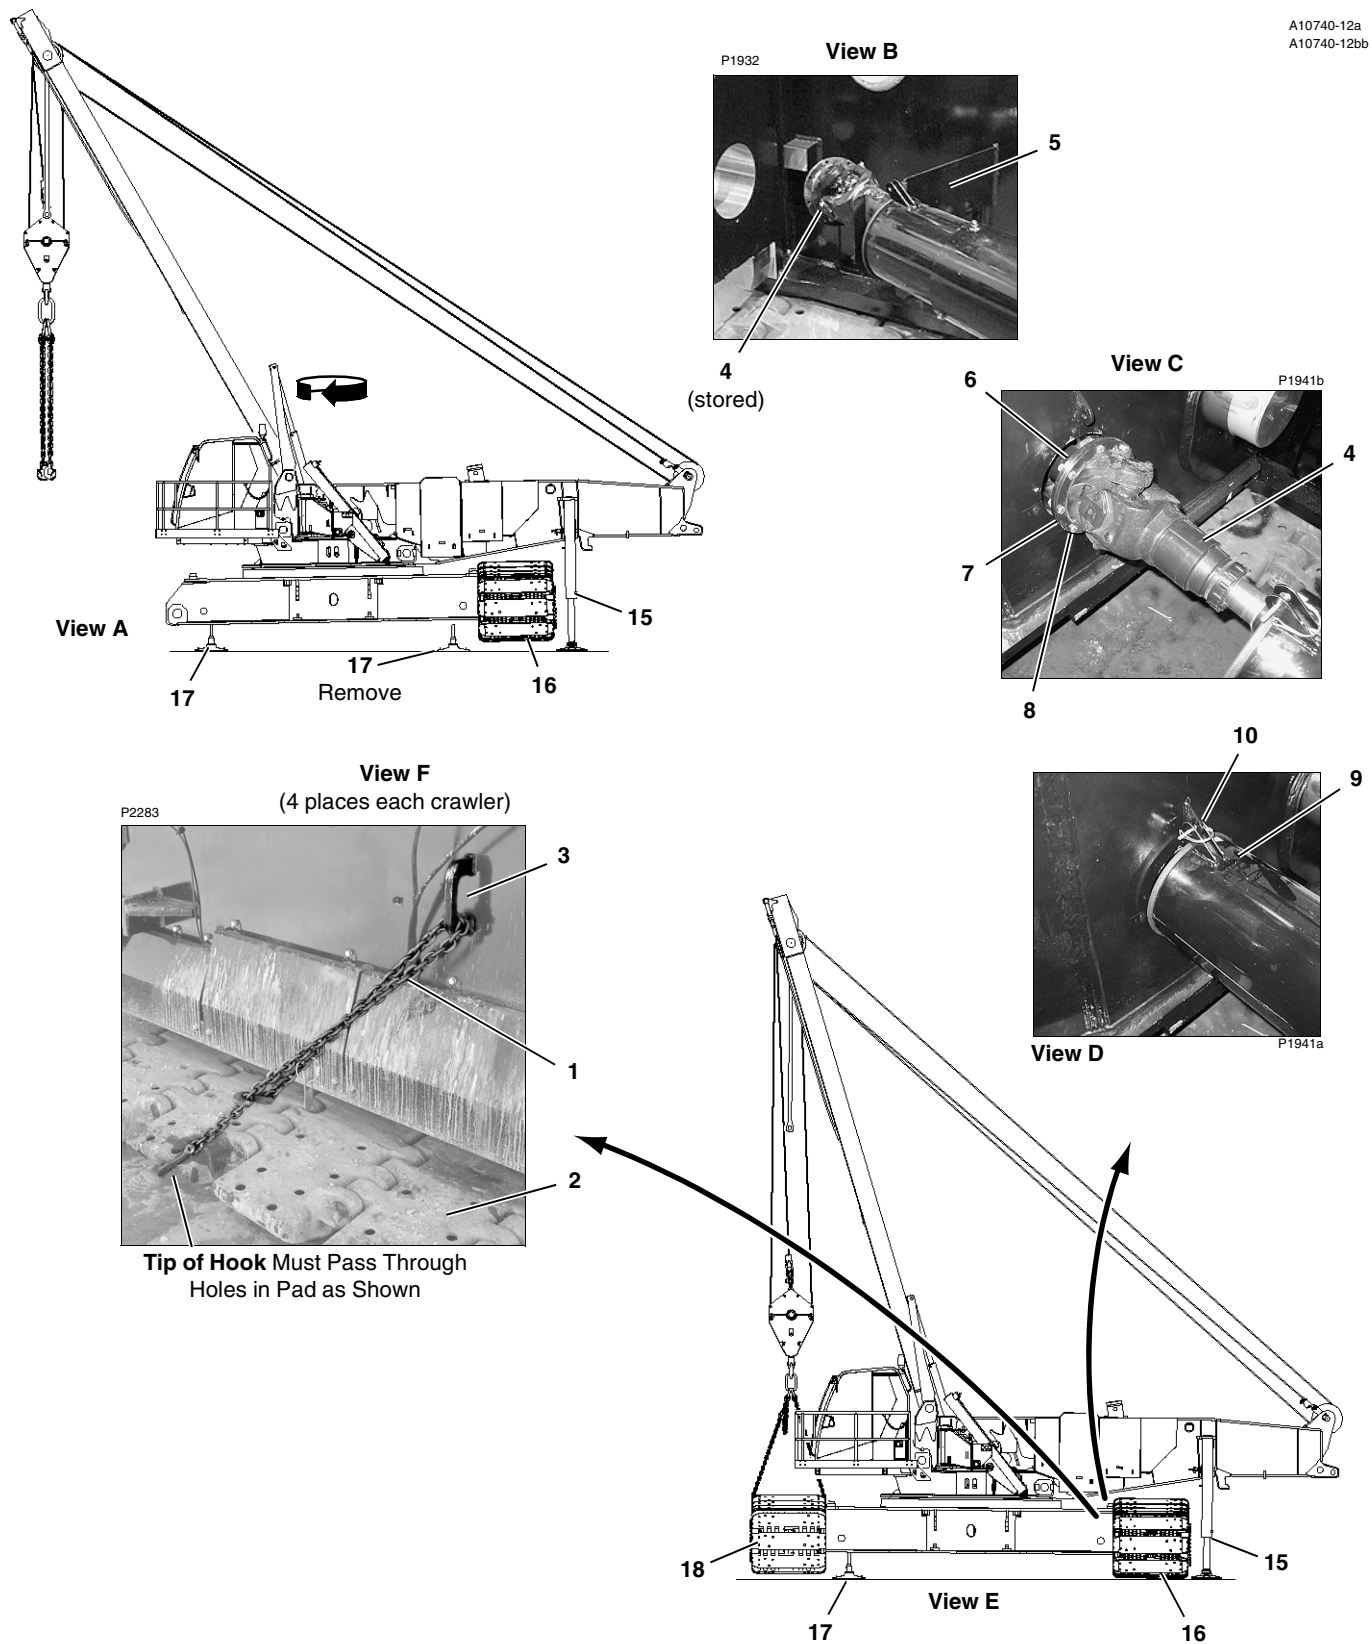

FIGURE 4-17
**NOTE:** To prevent the crawler pads from sagging too much when the crawler is lifted, chains are installed between the crawler frames and pads (see Figure 4-17, View F). Some sag must be allowed to prevent interference between carbody and crawler pads.
See Figure 4-17 for following procedure.
**Legend for Figure 4-17**